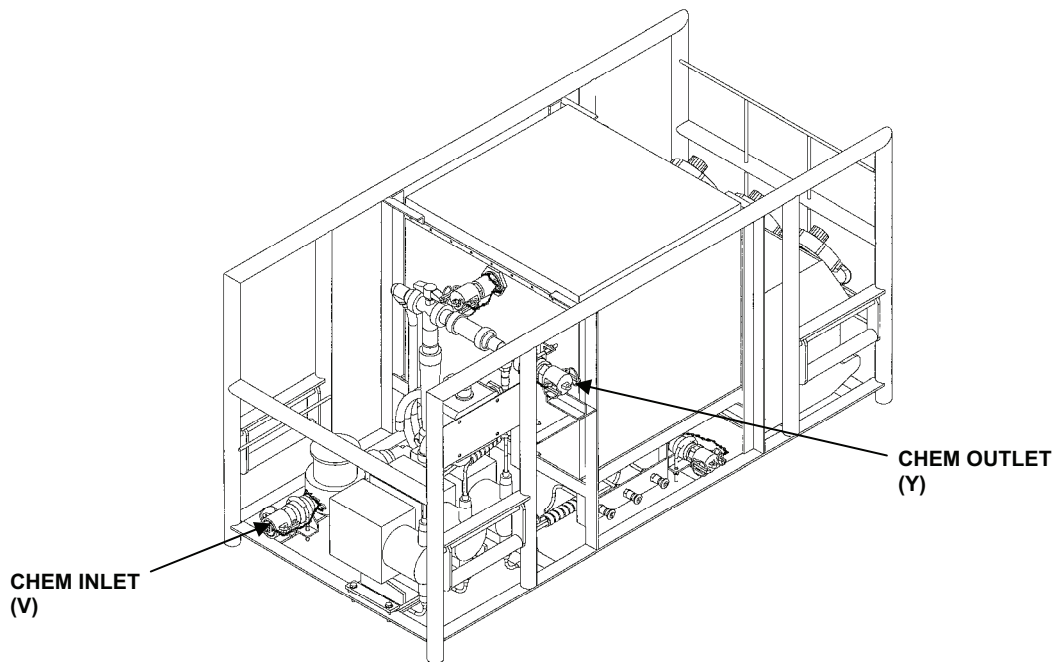

Figure 13. Chemical Module Product Water Hose Connections.
28. Connect one end of potable water hose (white) to the chemical module outlet (Y). See Figure 1 and Figure 13.
29. The other end of these two potable water hoses (white) will be connected to the product tank (AA) once the water quality has been established.
30. Route the power electrical cable (8) (purple) from the chemical module and connect it to the control module connection (J8).